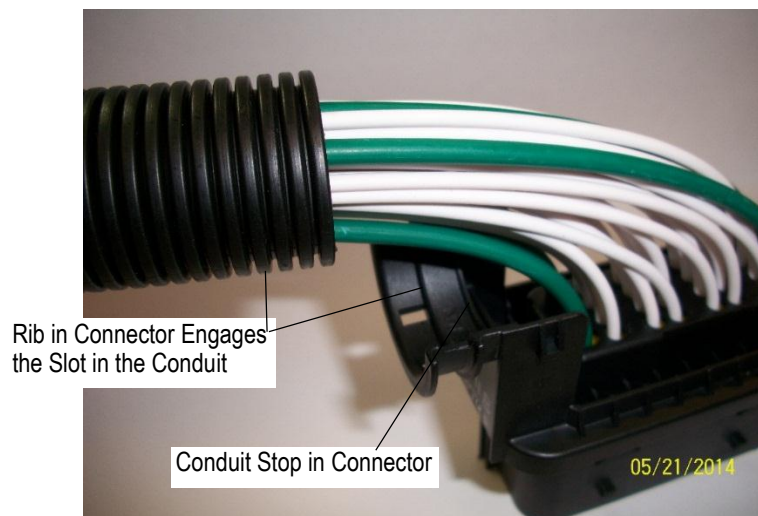

Figure 17
3. In applications that use a conduit, insert the conduit up to the stop in the connector halves. Ensure that the rib in the connector engages the slot in the conduit. See Figure 17.